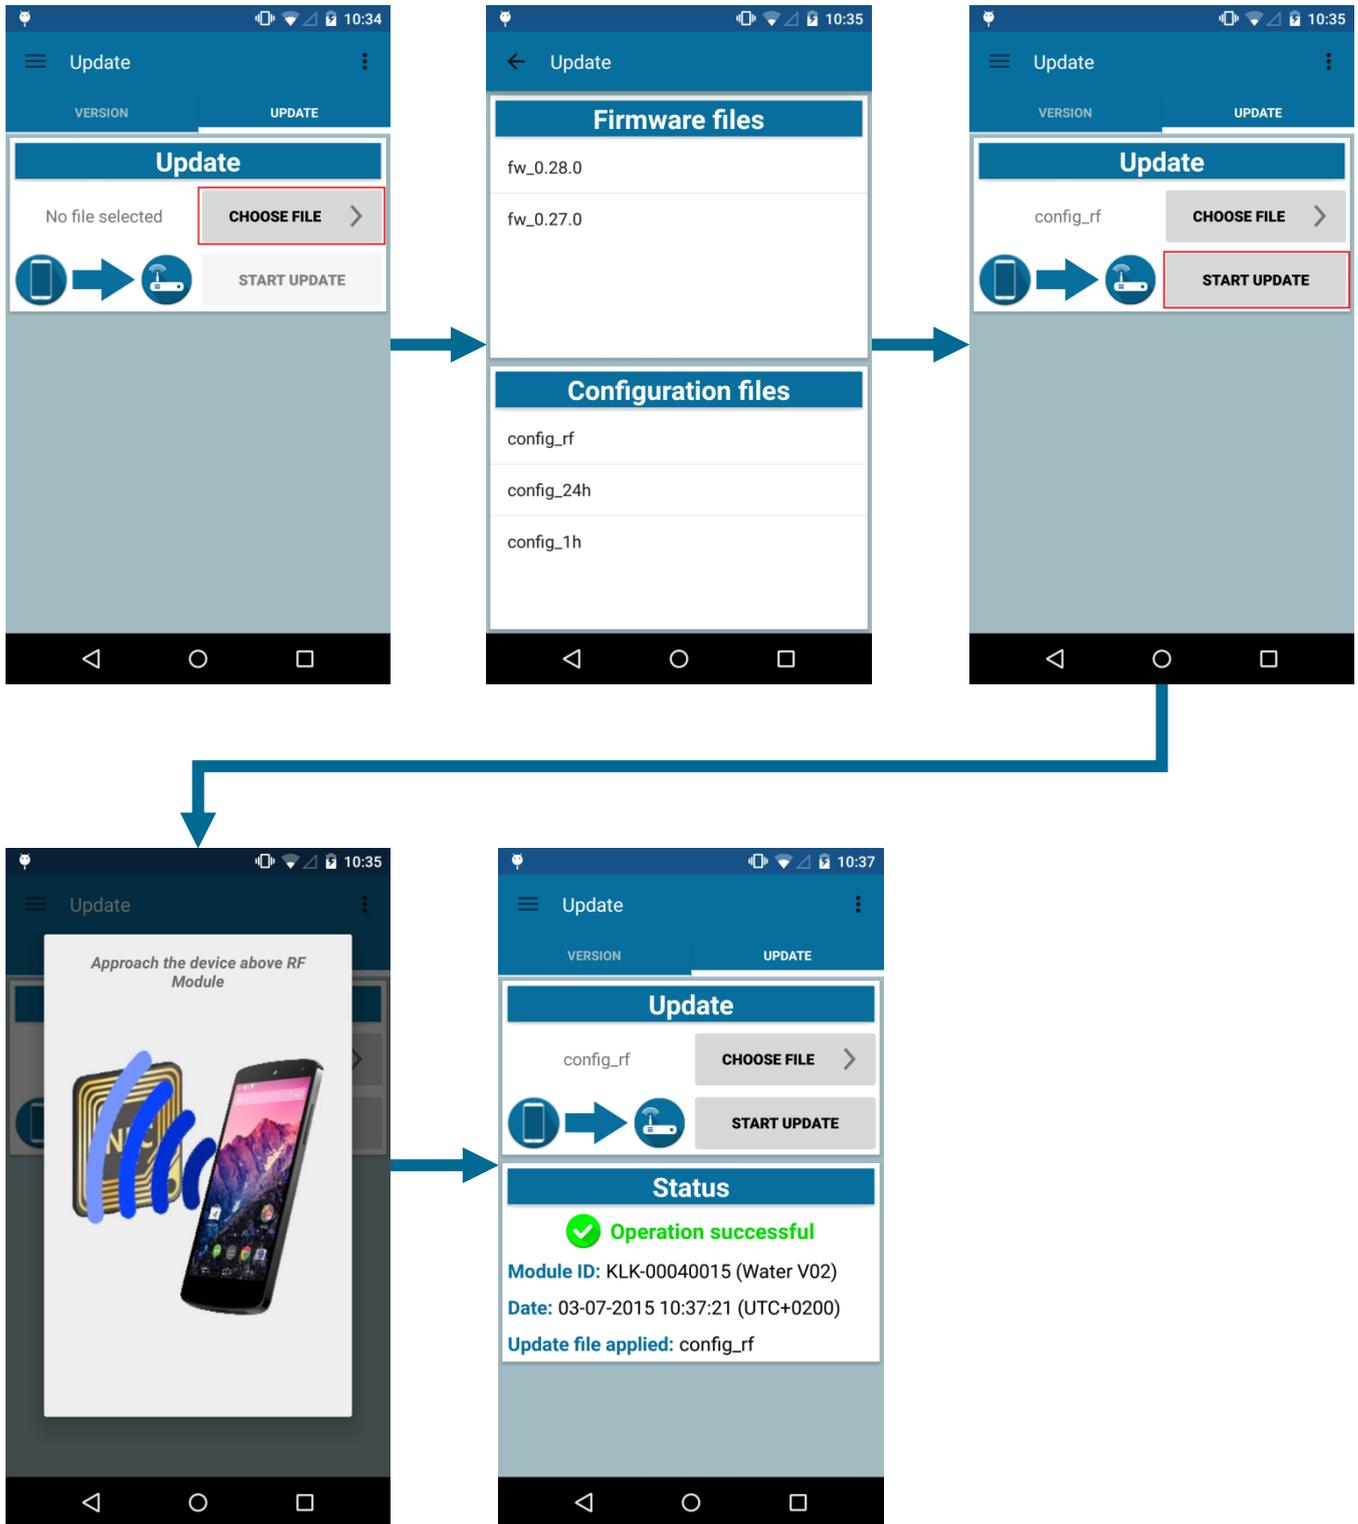

Figure 35: Update operation
- At the end the operation, the status of the update is displayed on the screen (see Figure 35)